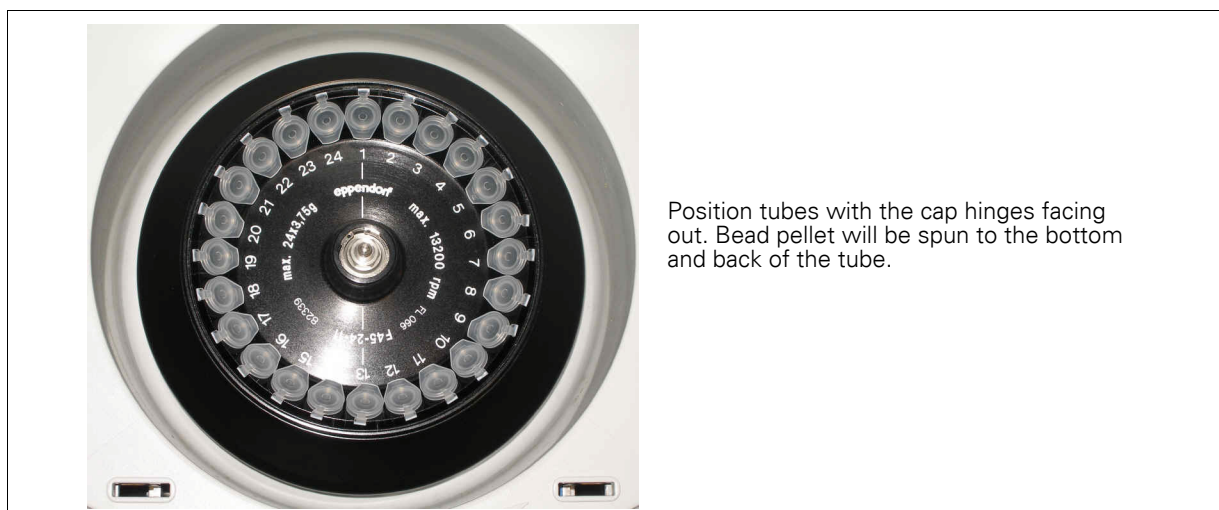

Figure 4.17 Position tubes with cap hinges out
6. Load the tubes – cap hinge facing out – onto the microcentrifuge and spin for 3 min at maximum speed (16,100 rcf; Figure 4.17 on page 55).